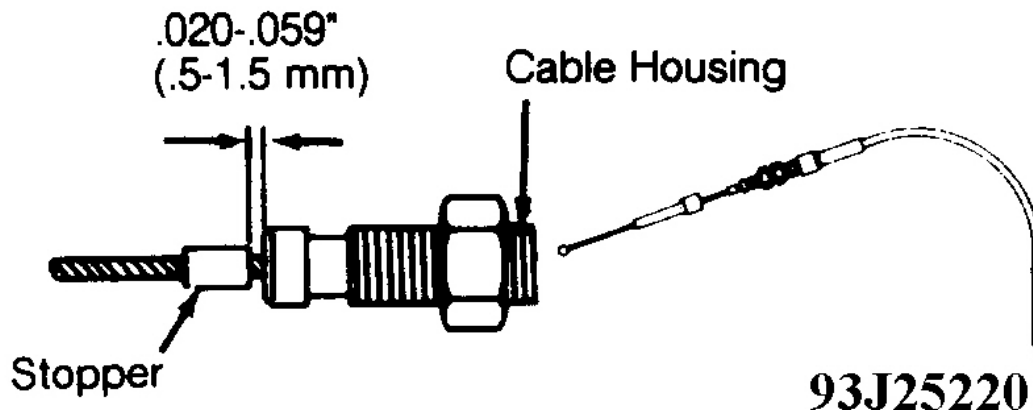

Fig. 2: Locating Throttle Cable Stopper
2. Pull inner cable lightly until a slight resistance is felt. Stake stopper .020-.059" (.50-1.50 mm) from end of outer cable. See **Fig. 2** . Connect throttle cable linkage.